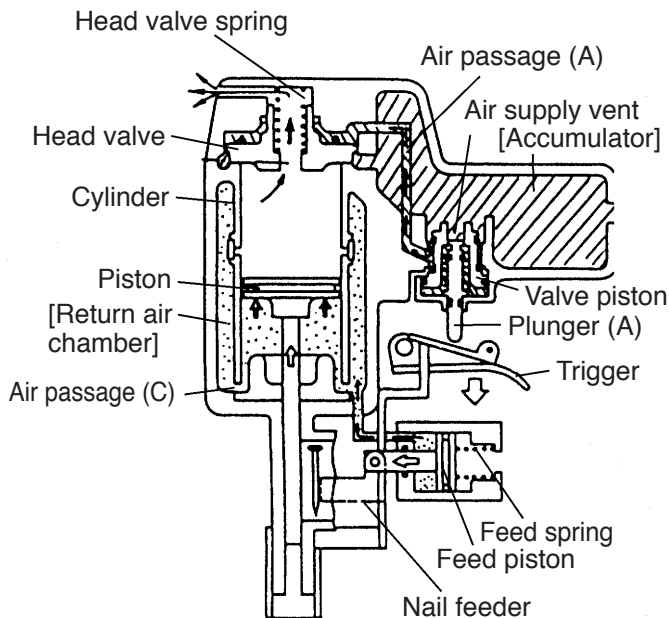

Fig. 9 During return
1. When the piston moves down inside the cylinder, the air below the piston flows through air passage (C) under the cylinder and is accumulated in the return air chamber together with the compressed air flowing through the cylinder hole.
(4) After nailing (See Fig. 9.)